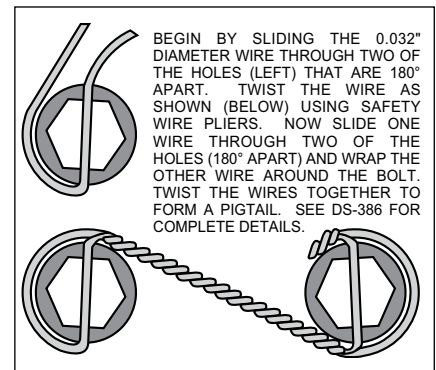
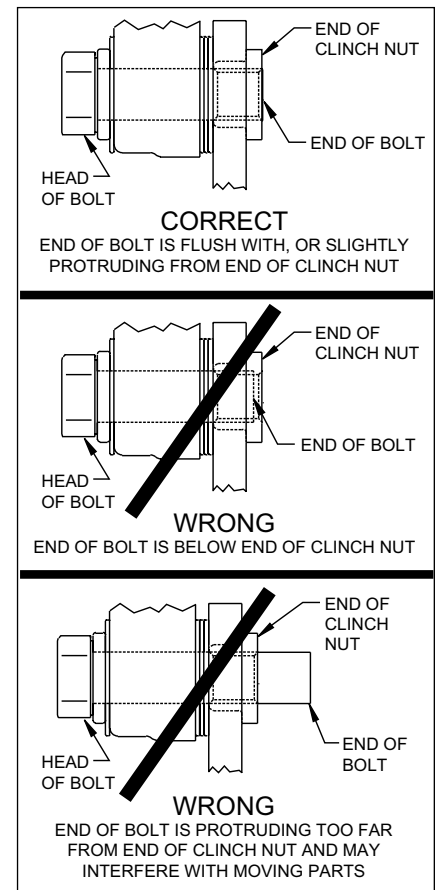

Figure 4. Safety Wire Diagram
Figure 5. Clinch Nut Engagement Diagram
CAUTION: All mounting bolts must fully engage clinch nuts. Be sure to check that all bolts are either flush or protruding through flanged side of clinch nut after shimming, Figure 5.
•The rotor (3) has two sides. A flat side and an inset side. Bolt hat (2) to flat side of rotor (3) using bolts (5). Apply red *Loctite*® 271 to the bolt threads and torque to 25 ft-lb using a criss-cross pattern. Safety wire bolts using standard 0.032 inch diameter stainless steel safety wire as shown in Figure 4. Please refer to Wilwood's data sheet DS-386 (available at www.wilwood.com/Pdf/DataSheets/ds386.pdf) for complete safety wire installation instructions.
•Align the correct hole pattern in the hat (2) with the stud pattern on the axle flange. **NOTE:** Some OEM and after market axles come with stud sizes larger than 0.50" diameter. Verify stud size and have a qualified machine shop drill the hats to the correct size. Slide the hat/rotor assembly (2 and 3) over the wheel studs and against the axle flange face.
•**NOTE:** Please reference the caution statement at the beginning of the assembly instructions. Mount the caliper (6) over the rotor (3) and onto the caliper mounting bracket (1) using washers (7) and mounting bolts (8). View the rotor through the top opening of the caliper. The rotor should be aligned in the center of the caliper. If not, adjust the caliper by using 0.032 inch shims (9) by placing them between the caliper mounting bracket (1) and the caliper (6). Add as many shim washers (9) as necessary to achieve the correct alignment. **NOTE:** The end of the bolt must be flush with or slightly protruding from the head of the clinch nut. See Figure 5. Place spare shims (9) between washer and caliper mounting ear to achieve the proper mounting fastener configuration. Always use the same amount of shims on both the top and bottom caliper mounting bolts (8). Apply red *Loctite*® 271 to the mounting bolt threads (8), torque to 40 ft-lb. Caliper mount bolts may be safety wired for additional security.
•Position the Wilwood disc brake pads (10) into the caliper (6) and fasten with cotter pin (4). Steel backing plate side of brake pad should face the caliper pistons.